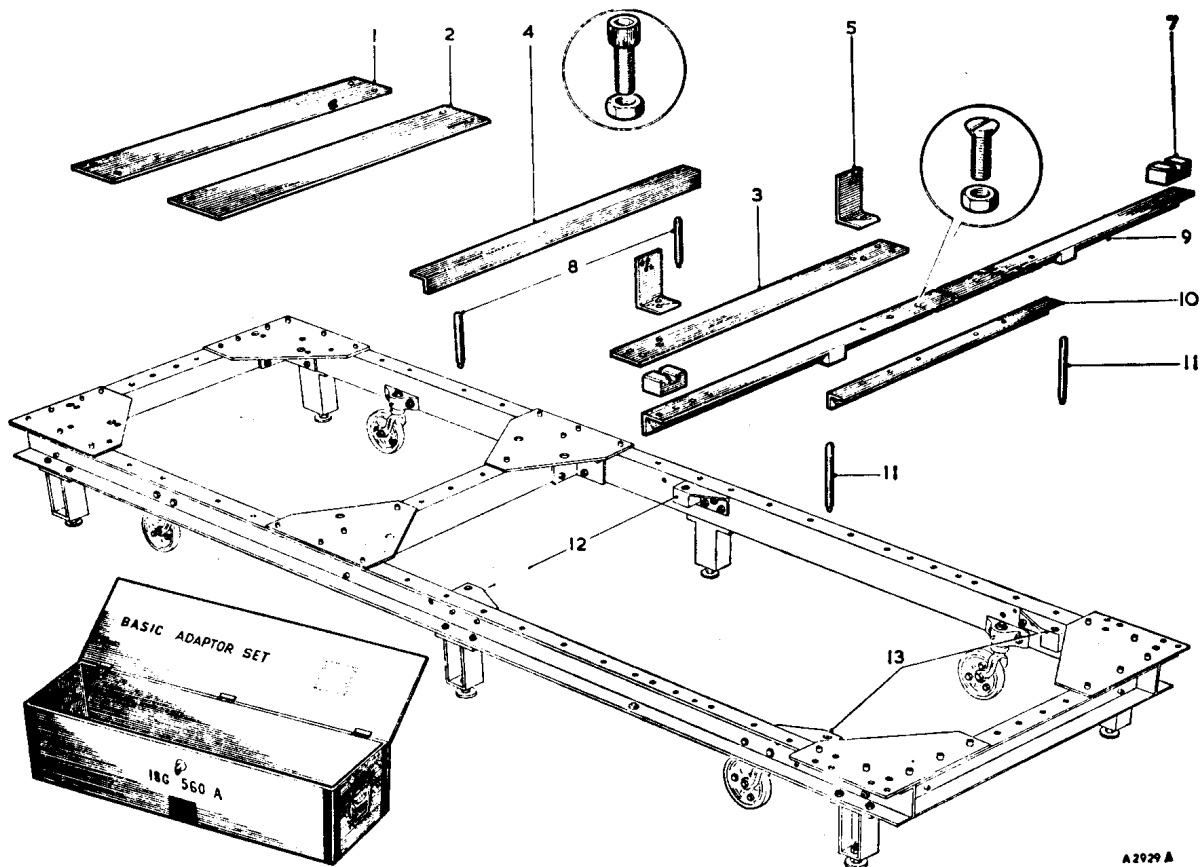

Fig. R.50
- (1) Fit the plates numbered 1 and 2 on the basic jig in the positions marked on the inside face on the left-hand side-member, using the socket screws, nuts, and washers supplied. The arrows marked on the labels must face the front of the jig, which bears a level indicator in the centre of the front member. The plate numbered 3 is attached similarly, using the forward pair of holes on each side of the jig where labelled.
NOTE.—Plates 1, 2, and 3 are identified by labels; the item numbers quoted in the instructions (2) to (6) refer to Fig. R.50.
- (5) Place the front jacking bar (4) in position on the shorter pair of support pins (8). The rear jacking bar now requires assembly as follows.